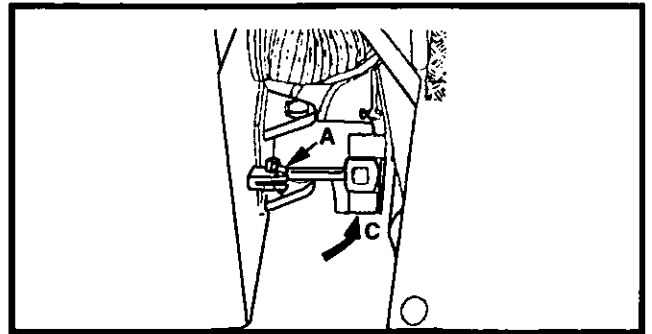

Figure 4-21 Articulation Locking Bar - Locked Position
2. Position the articulation locking bar (Figure 4-21) into the locked position 'C' and insert locking pin 'A'.